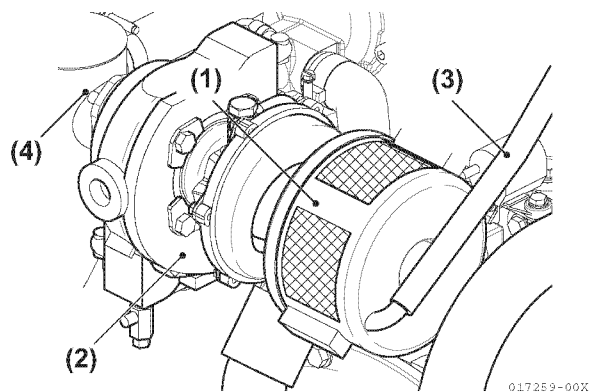

Figure 5-194
58. Install the turbocharger for 4JH4-TE and 4JH4-HTE (Figure 5-194).